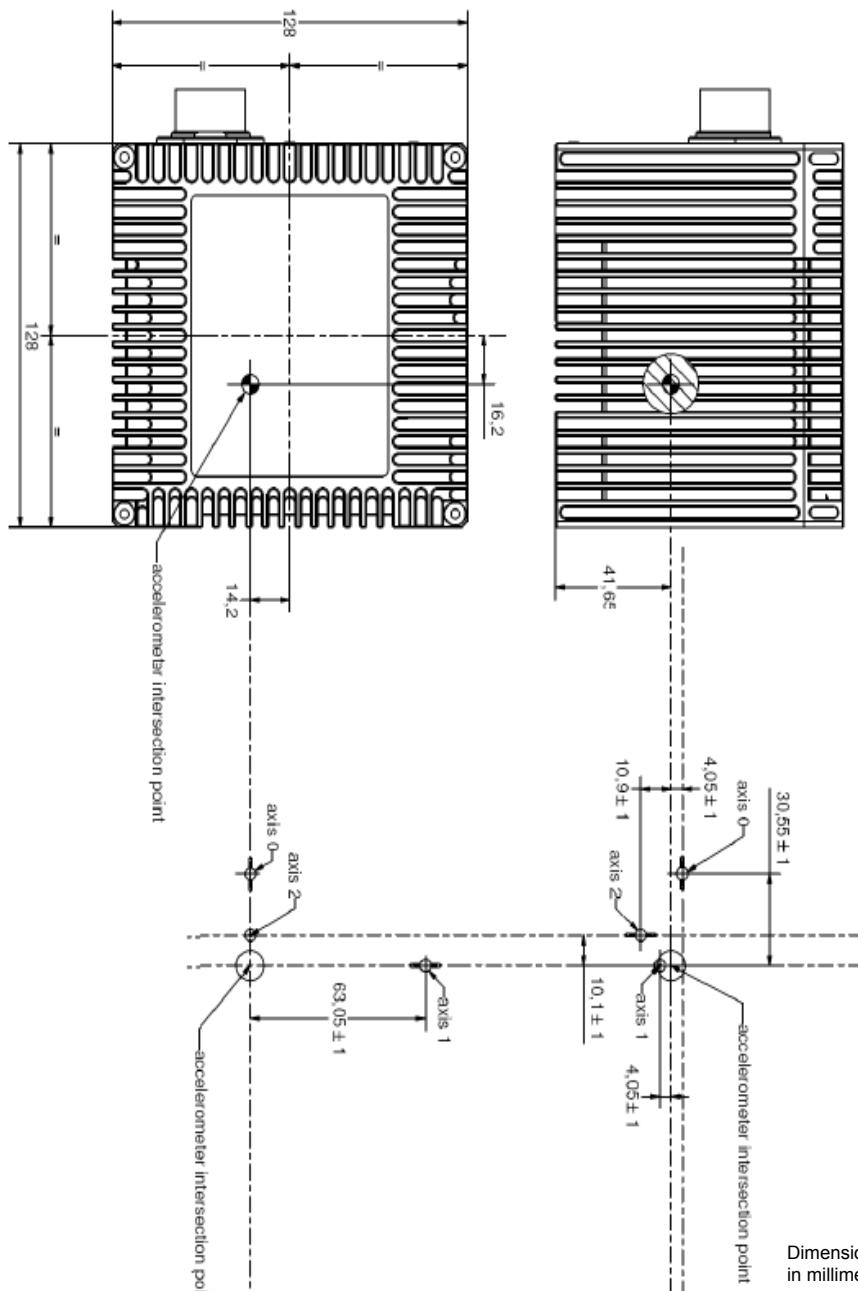

Figure 35: iIMU-FSAS Center of Navigation
a. See *Figure 35* on page 112 for the center of navigation dimensions